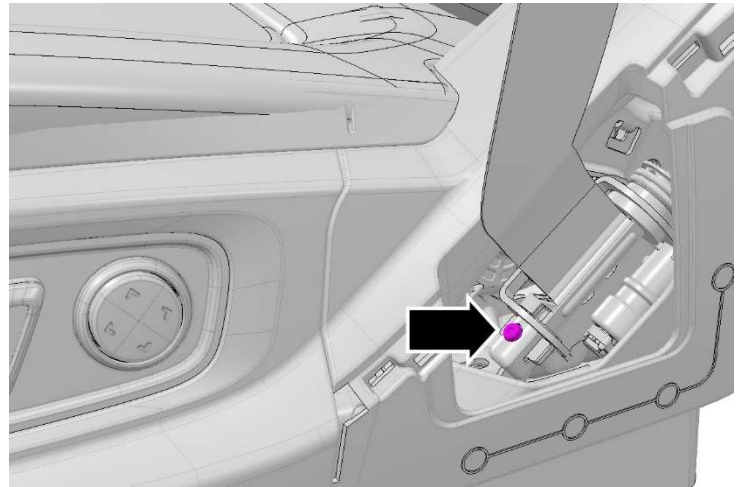

Figure 6
2. Remove the highlighted screw from the safety belt anchor. (Figure 6)